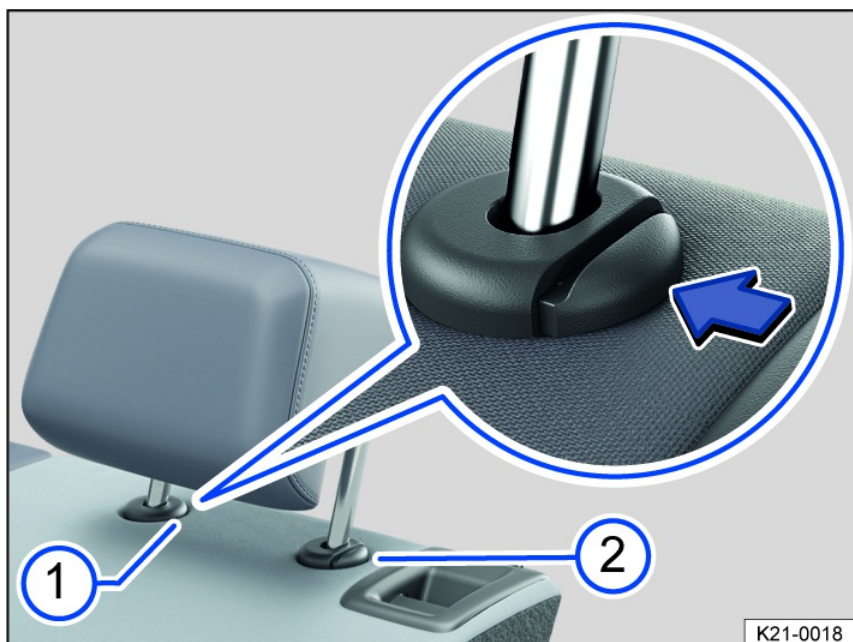

Fig. 74 Removing the middle rear head restraint (general example).
3. Press the button fig. 74 on the head restraint guide.
4. At the same time, press the button fig. 74 while a second person pulls the head restraint all the way out.
3. Push the head restraint downward while pressing the fig. 74 button.